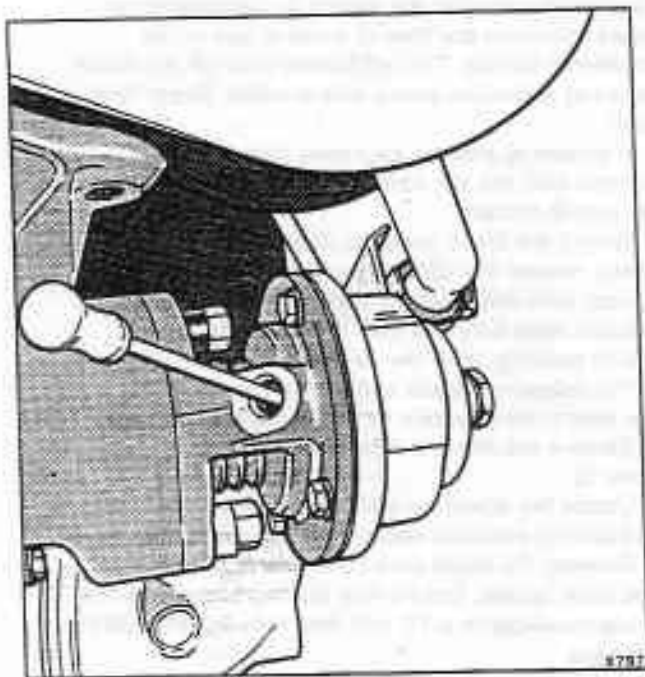

Fig. K11-34 Checking the movement of the wastegate diaphragm
6. To ensure that the wastegate has fully opened, remove the boost pressure pipe (see fig. K11-34) to the wastegate and carefully insert a small screwdriver or a piece of rigid wire into the wastegate pressure tapping hole. Immediately the boost solenoid operates, the diaphragm/piston assembly should move fully forward as the vacuum source is applied.